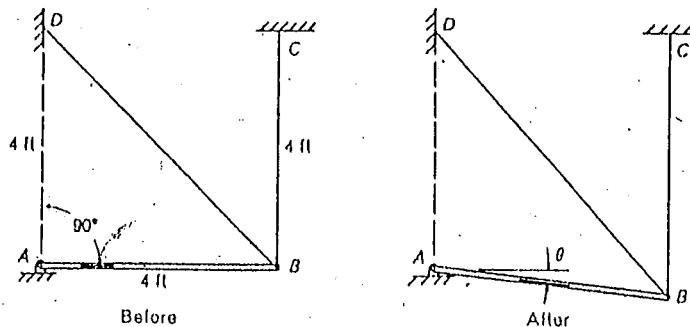

Fig. P2.21
2.21. The bar AB is rigid and is supported by two wires DB and CB as shown in Fig. P2.21. If the bar rotates through a small angle θ , determine the average extensional strain of DB and CB .